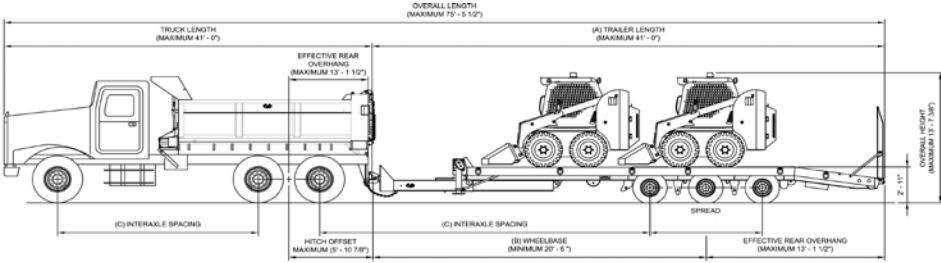

Figure 5
1. Trailers are designed for uniform load distribution as shown in Figure 5. The load should be distributed equally between the front and the rear of the trailer.